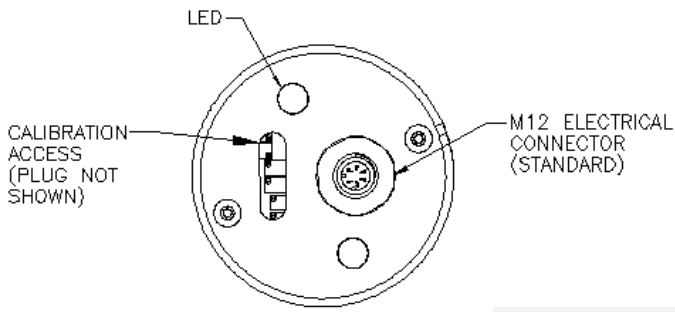

FIGURE 4
3. Provide supply pressure to the inlet port of the GX. (See figure 4). Make sure supply pressure does not exceed the rating for the valve. (see table 1)